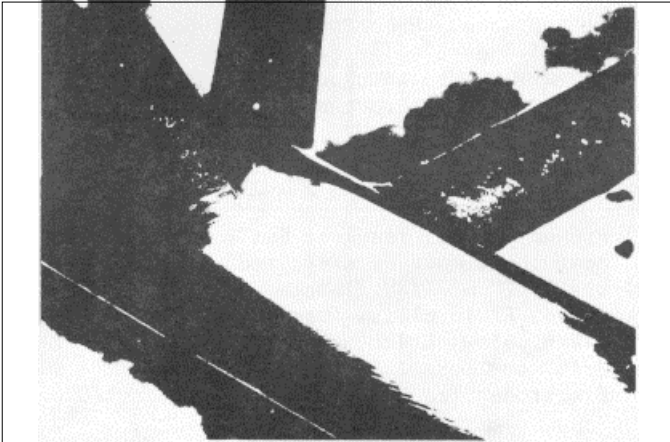

Fig. 25
(4) Using a fine (80 - 100 grit) disc, polish the weld area to bright clean metal as In Figure 25.